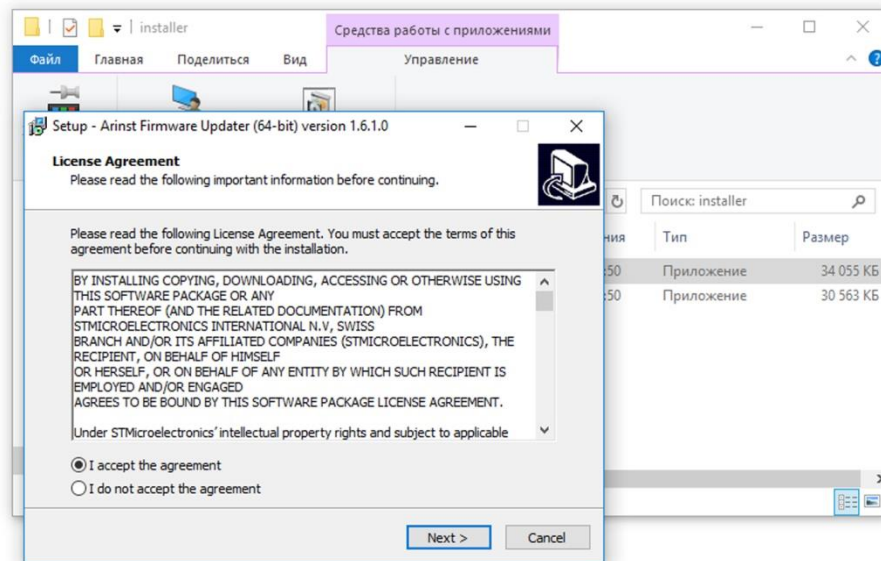

Figure A1.5 – License agreement
1.5. Carefully read the terms of the license agreement. To further install the application, accept the terms of the license agreement and click the **Next>** button (Figure A1.5).